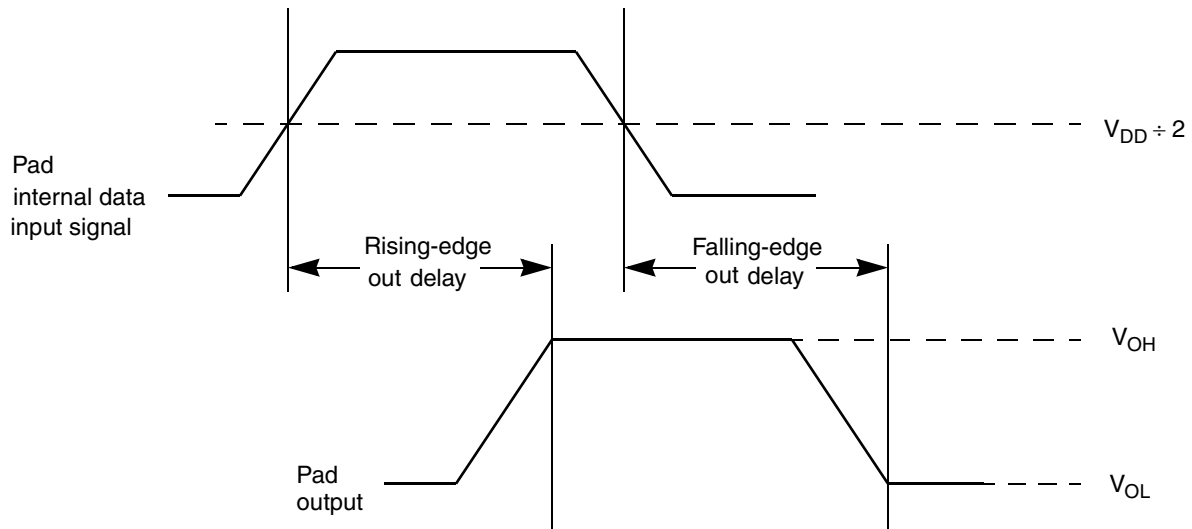

Figure 4. Pad Output Delay
3 Out delay is shown in Figure 4. Add a maximum of one system clock to the output delay for delay with respect to system clock.
- 4 Out delay is shown in Figure 4. Add a maximum of one system clock to the output delay for delay with respect to system clock.